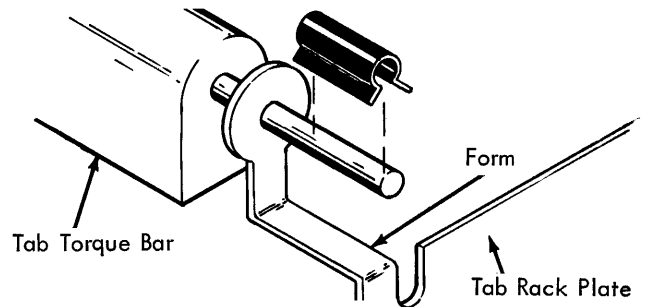

FIGURE 144. Tab Rack Plate
- b. With the carrier to the right, form the extension on the tab rack plate so that .001" to .002" exists between the raised area of the escapement bracket and the tab torque bar. This is the extension which supports the tab torque bar on the right side (Fig. 144). Note: This part is case hardened on early machines. Use caution when forming. Adjustment a. should be rechecked if this extension is formed.